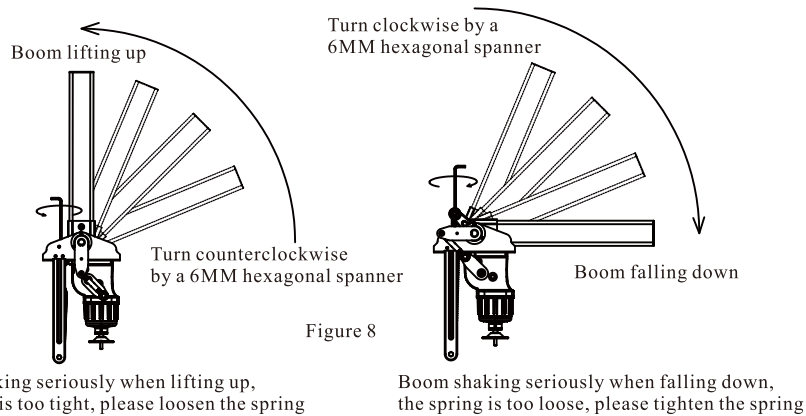

Figure 8
7.2.6.4. If boom shaking seriously when lifting up or falling down (see Figure 8). Adjustment as following: If the boom shaking seriously when lifting up, that means the spring is too tight, please loosen the spring repeatedly; if the boom shaking seriously when falling down, that means the spring is too loose, please tighten the spring repeatedly.